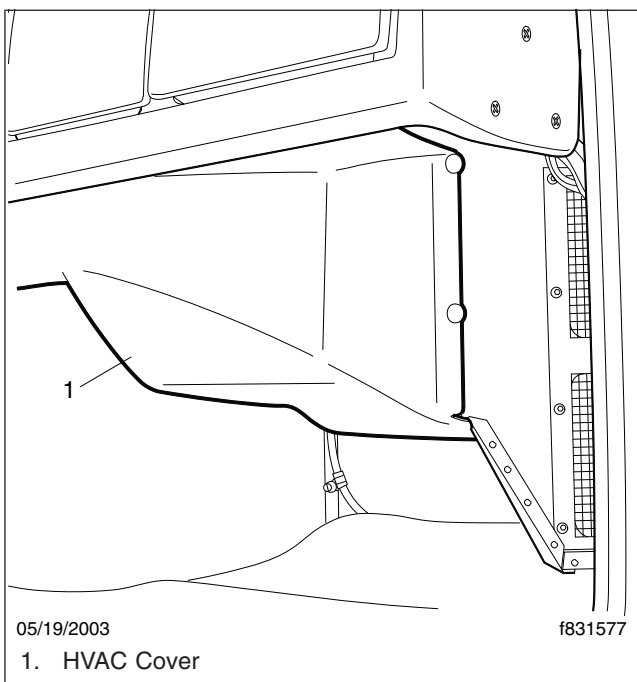

Fig. 2, HVAC Cover
2. From inside the cab, remove the fasteners that attach the HVAC cover, if equipped, to the HVAC assembly. Remove the HVAC cover. See Fig. 2.